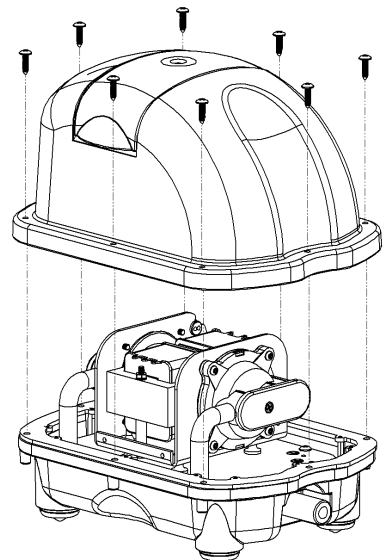

Figure 2
- A. Loosen the eight screws around the plastic upper housing, and take the housing off. (As shown in figure 2)